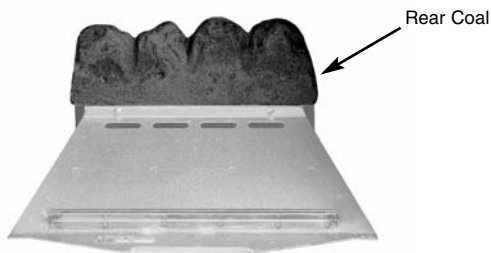

Fig. 25
1. Place the rear coal on the rear coal retainer ledge in a central position (Fig. 25).